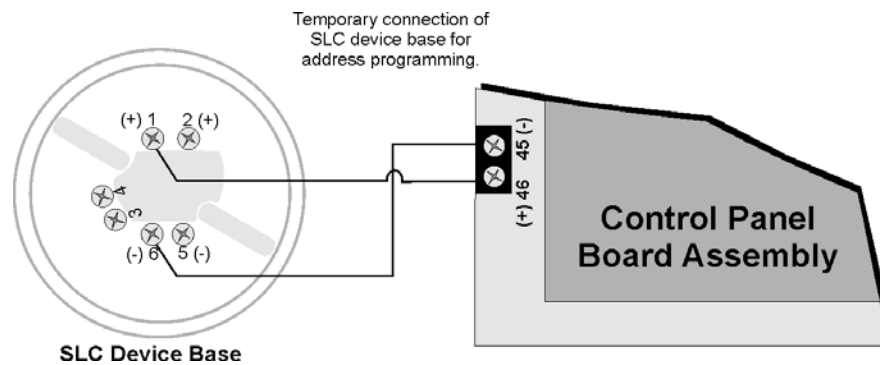

Figure 5-7: Temporary Connection of Detector Base to Panel for Addressing
1. Connect a detector base temporarily to the programming terminals as shown in Figure 5-7. (You can use the same base for each detector.)